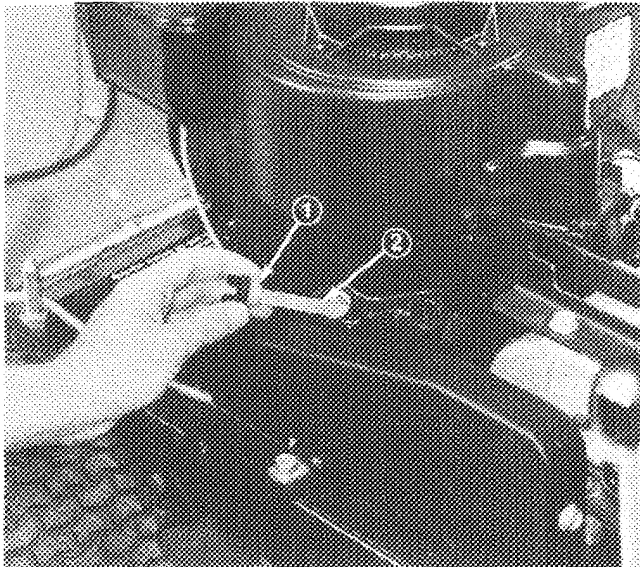

Figure 5
3. Remove dipstick plug from crankcase (Fig. 5).
4. Slowly, pour approximately 27 ounces (.80 l) of oil into crankcase (Fig. 5). The Tecumseh engine uses any high quality detergent oil having the American Petroleum Institute — API — “service classification” MS, SC, SD or SF. Oil viscosity — weight — must be selected according to anticipated ambient temperature.
5. Rock the rider gently to release any air that may be trapped in crankcase. Screw dipstick plug fully into opening in crankcase; then remove the plug and make sure that oil level is up to FULL mark on dipstick (Fig. 5). If level is low, add only enough oil to bring level up to FULL mark.